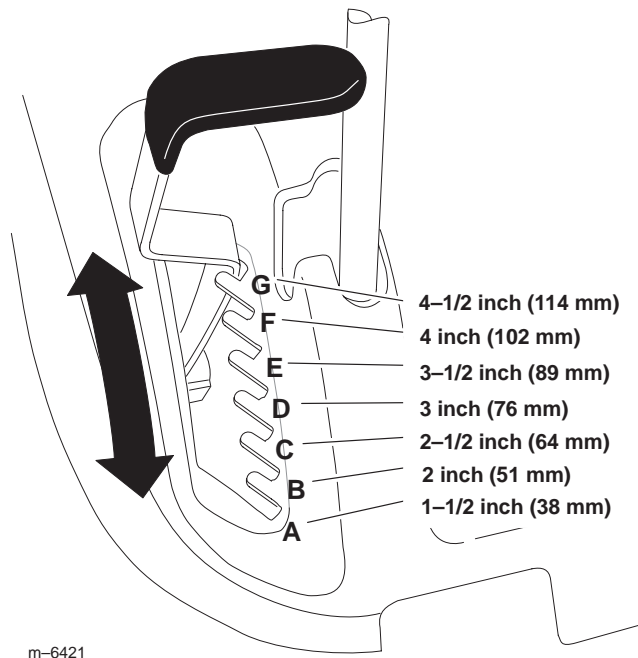

Figure 10
1. Raise the height-of-cut lever to the transport position (also the 4-1/2 inch (114 mm) cutting height position) (Fig. 10).
2. To adjust, pull up on the height-of-cut lever and move it to the desired position (Fig. 10).
1. Raise the mower to the **G** position (4-1/2 inch) (Fig. 10).